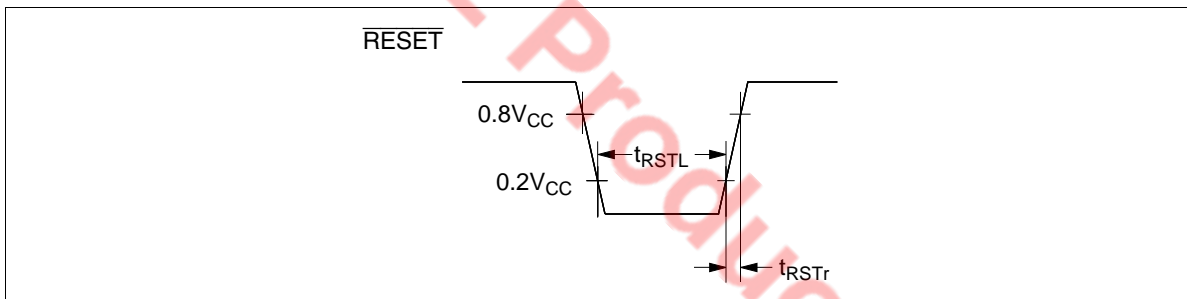

Figure 86  $\overline{RESET}$  Timing
5. Refer to figure 86.
- Refer to figure 86.